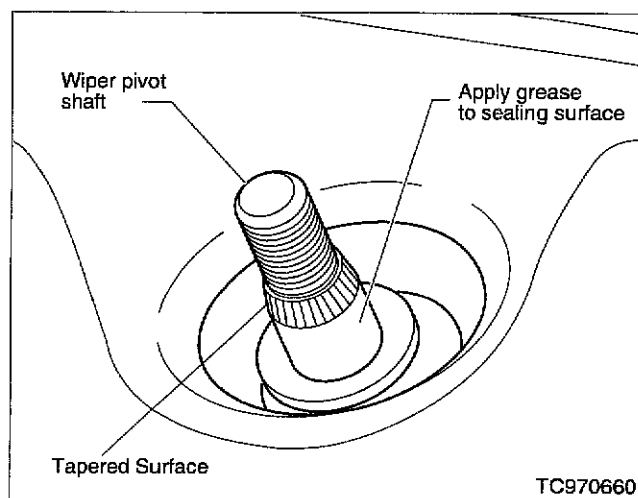

Figure 3
B. Clean the wiper pivot shafts and apply a light coat of white lithium grease to the sealing surface of the shafts (see Figure 3).